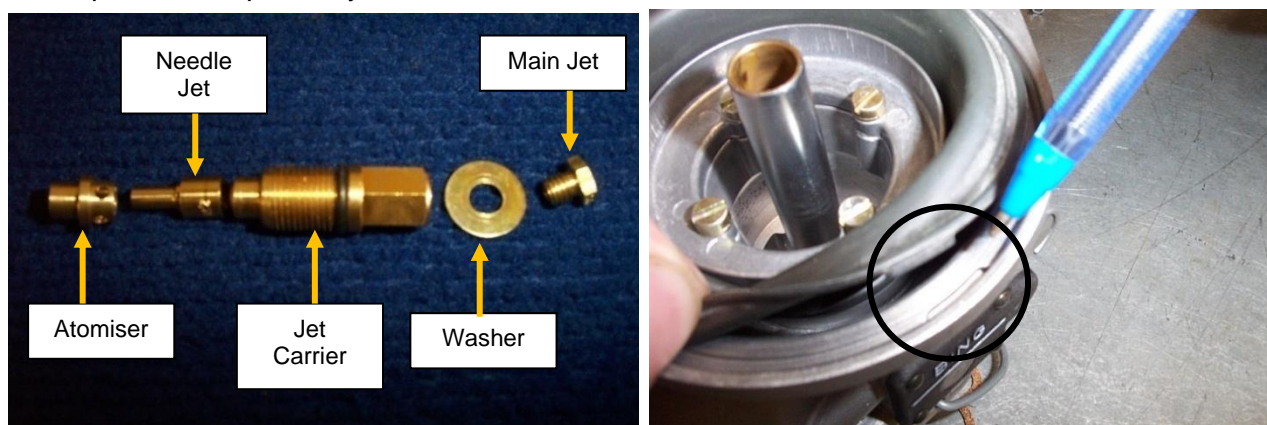

Figure 119 – Carburettor Jets & Diaphragm
- During re-assembly ensure that the atomiser, needle jet, jet carrier, washer and main jet are installed in the correct orientation and correct order as shown in Figure 119 (left). Also ensure that the tag on the diaphragm is aligned and fitted correctly to the socket in the carburettor body as shown in Figure 119 (right)